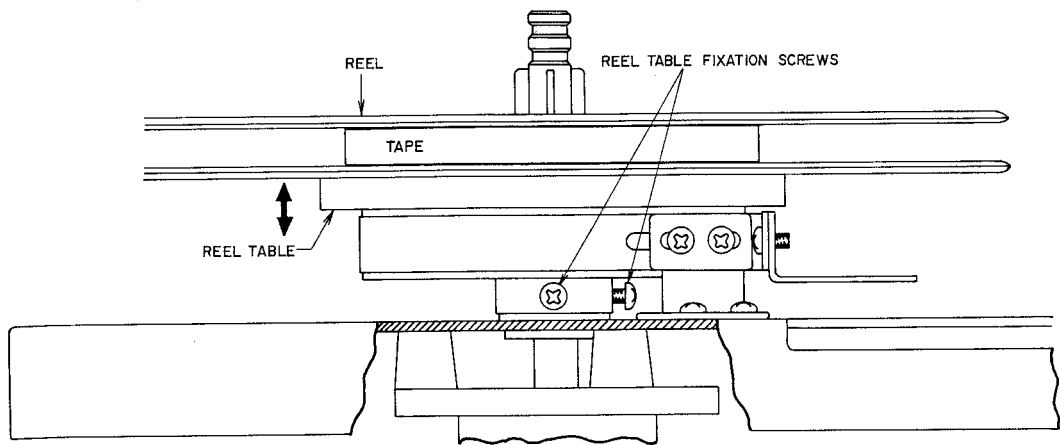

Fig. 5
### 5. ADJUSTMENT OF REEL TABLE HEIGHT (Refer to Fig. 5)
- 1) Properly load a tape and move the reel table as indicated by the arrow mark in Fig. 5.